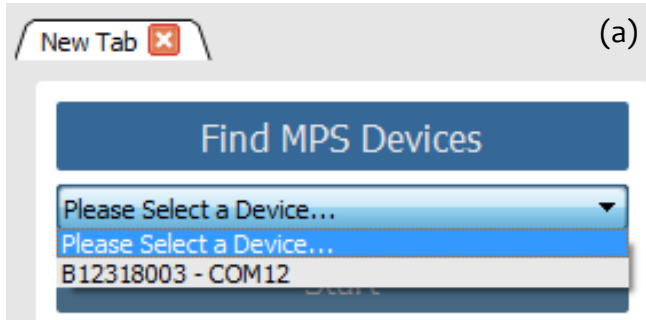

Figure 4 – (a) Selecting the active MPS™ Flammables device. (b) Sensor name indicator
8. Click the “Find MPS Devices” button and select the MPS Flammable Gas Sensor connected to the computer (Fig. 4). The sensor name is found on the sensor serial number in the form: B12318003.